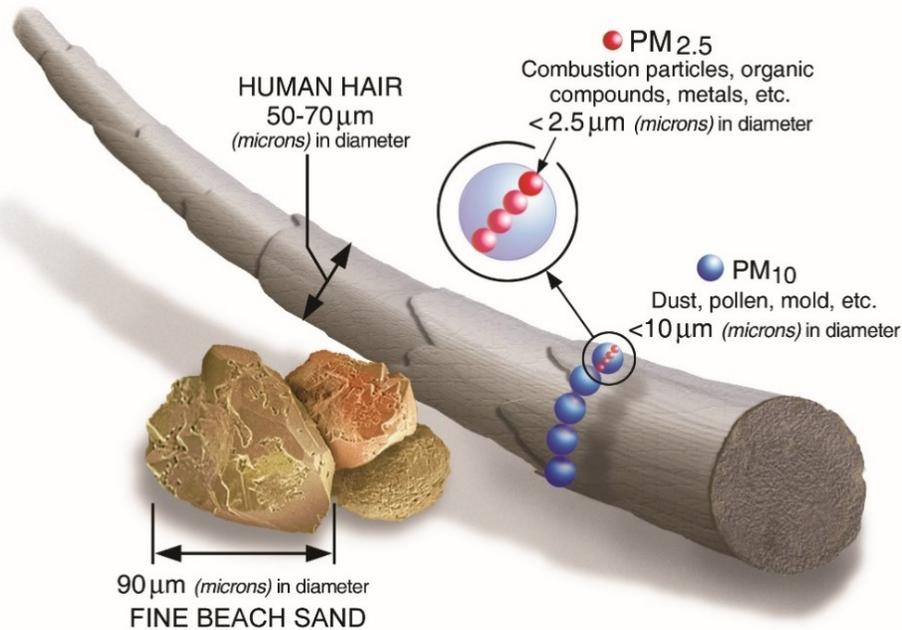

Figure 3 – Particle Size of Common Contaminants
- I.4 Except for the grooves per inch and the low frequency groove modulations all other dimensions are invisible to the naked eye under bright white light that is limited to about 50 microns (source *MIL-STD-1330D (52) & MIL-STD-1622B (53)*). Ultraviolet (UV) blacklight at 365 nano-meters (nm) can detect particles that fluoresce that are about 25 microns, but the groove bottom and groove sidewall ridges will not be individually detectable. Also, based on the groove dimensions, particles of interest can be very small – less than 10 microns and per **Figure 3**, common in any residential environment. While individual particles of less than 1 micron ‘may’ be of little consequence (see **CHAPTER XI. DISCUSSION OF CLEANLINESS CRITERIA:** for a detailed analysis), groups of these small particles can conglomerate into larger masses. Consequently, the cleaning process has to be able to remove invisible contaminants. Obviously, “looks clean” to the naked eye is basically meaningless other than to note significant defects resulting from the pressing process, handling or abuse and to see some of the more obvious manifestations of contamination, *e.g.*, fingerprints or large dust particles. To effectively clean a record, we must approach the task with a level of precision that is not